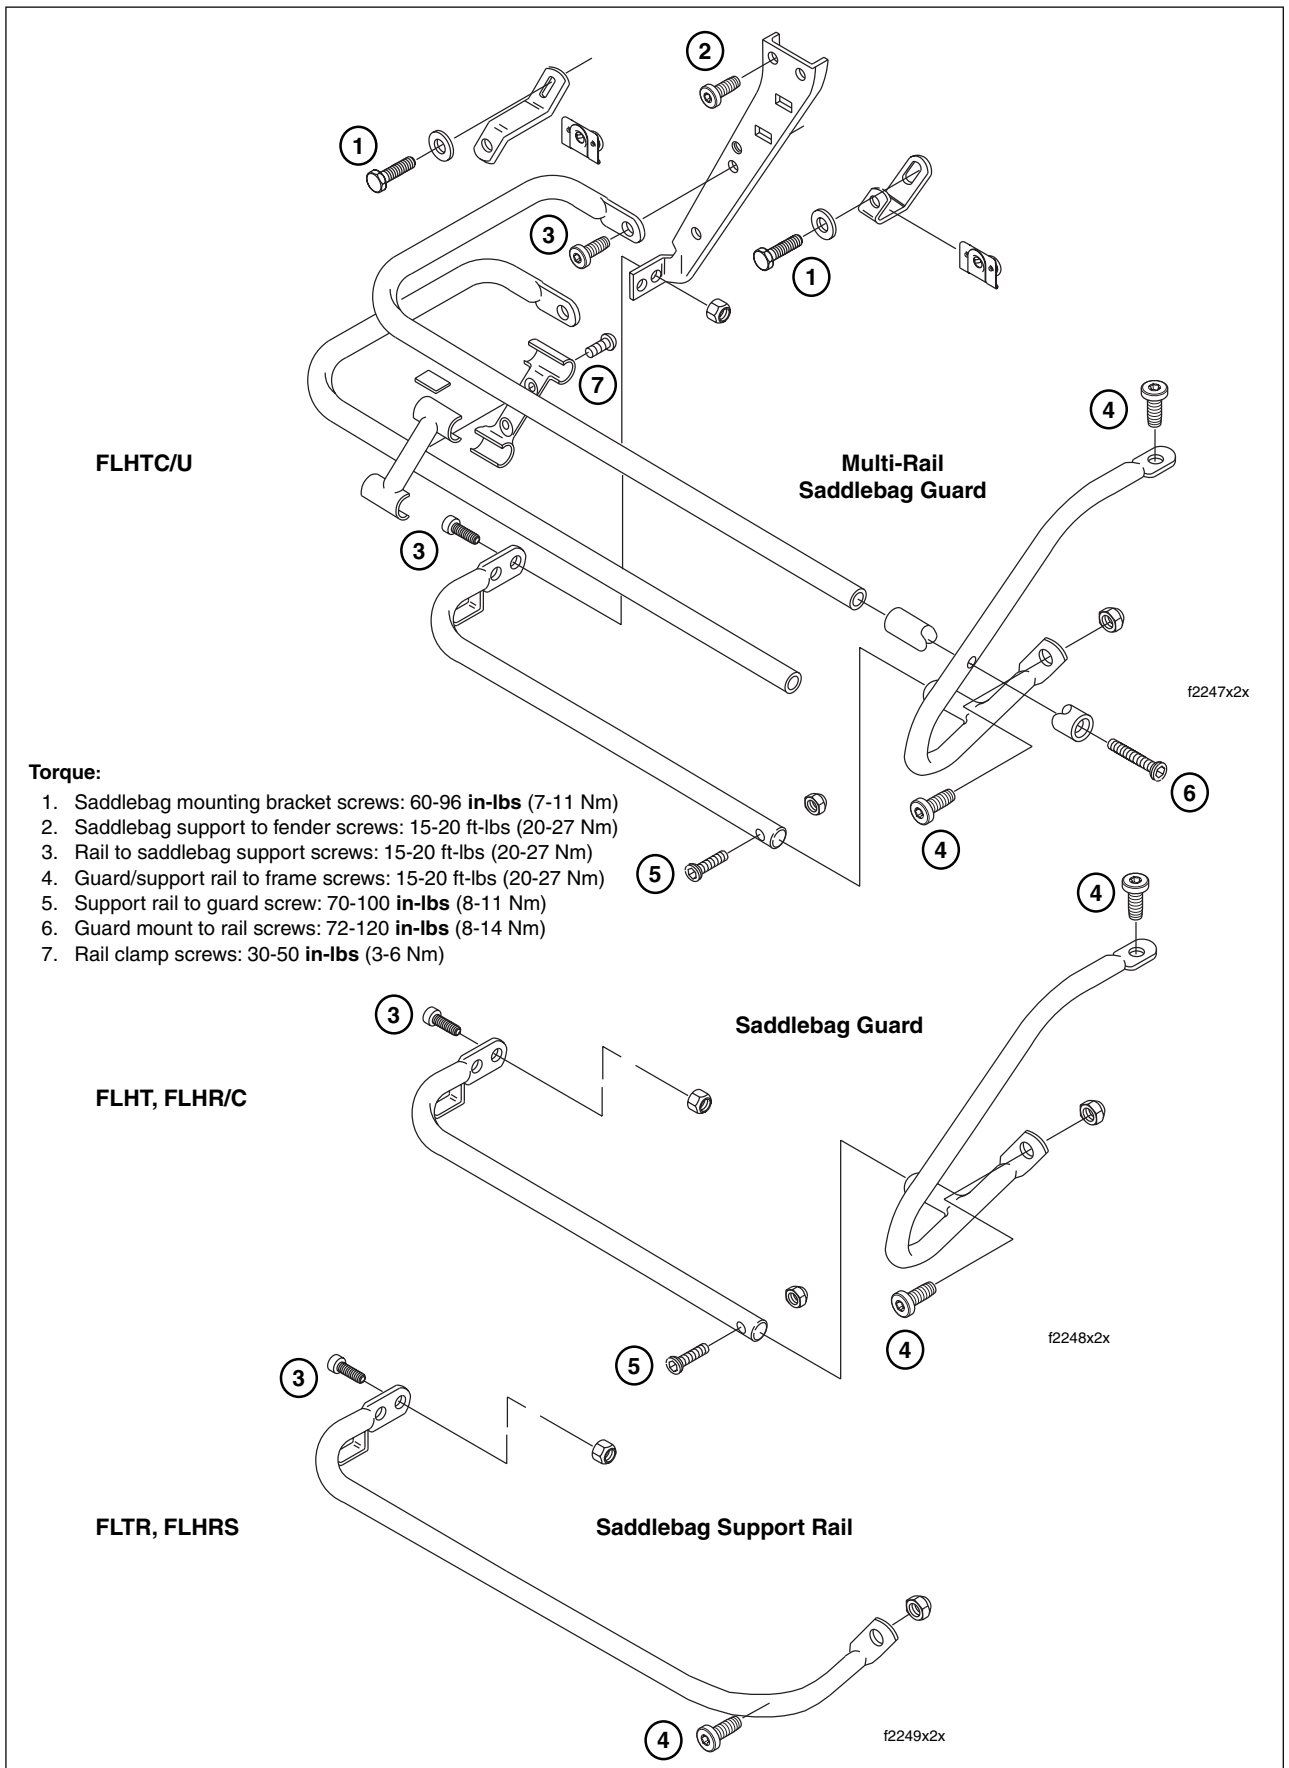

Figure 2-139. Saddlebag Guards/Support Rail
2. Disassemble saddlebag guard, support and/or rails as necessary. See Figure 2-139.
1. Assemble saddlebag guard, support and/or rails as necessary. Replace any damaged parts. See Figure 2-139.